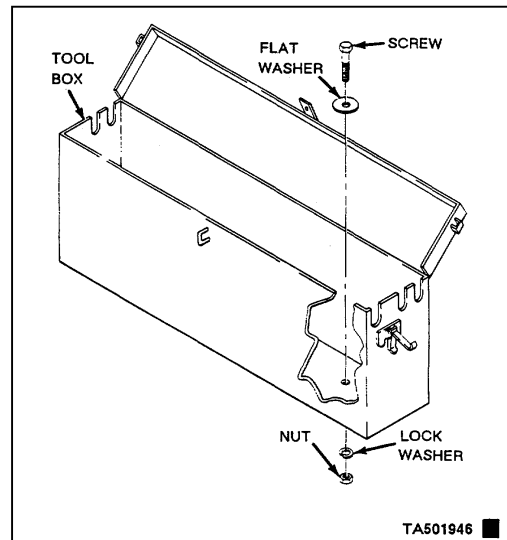

Figure 4-105.1. Tool box, removal and installation
- a. Removal. Remove tool box as shown in figure 4-105.1.
- b. Installation. Install tool box as shown in figure 4-105.1.